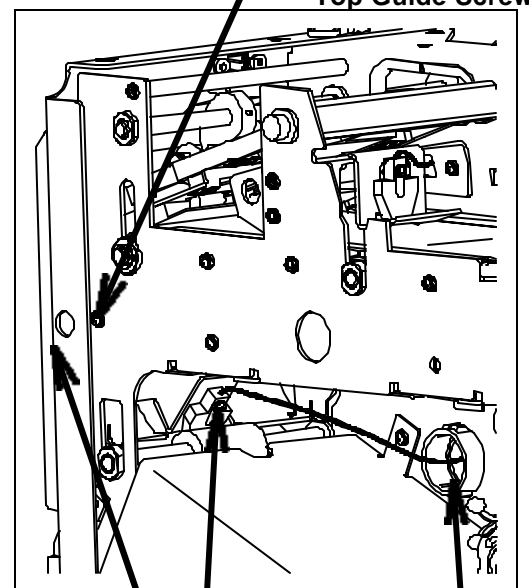

Figure 3
7. Remove #4-40 Sensor Screw from the internal curved guide (Figure 3). **IMPORTANT: Note the cable routing from the sensor to the PCB assembly and the position of the sensor before removing.**